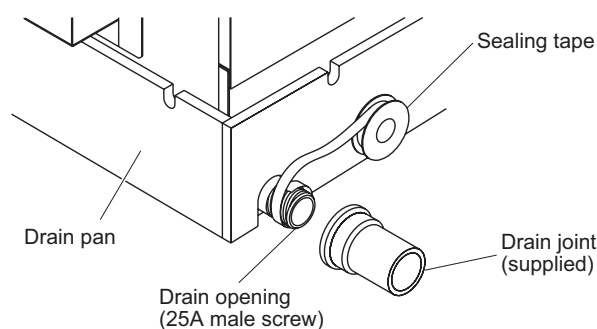
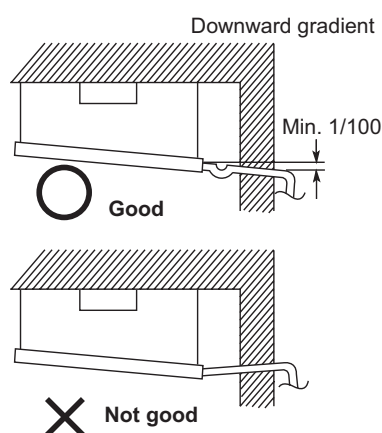

Fig. 2-154
Fig. 2-155
- (1) Prepare standard hard PVC pipe (O.D. 32 mm) for the drain and use the supplied drain socket to prevent water leaks. The PVC pipe must be purchased separately. When doing this, apply adhesive for the PVC pipe at the connection point.
- (2) If connecting a drain joint (supplied) to the threaded drain port, first wrap the drain port threads with sealing tape, then connect the joint. (Fig. 2-154)
- (3) After connecting the drain pipe securely, wrap insulator (field supply) around the pipe.
- (4) Ensure the drain pipe has a downward gradient (1/100 or more) and prepare traps as indicated in Fig. 2-155.